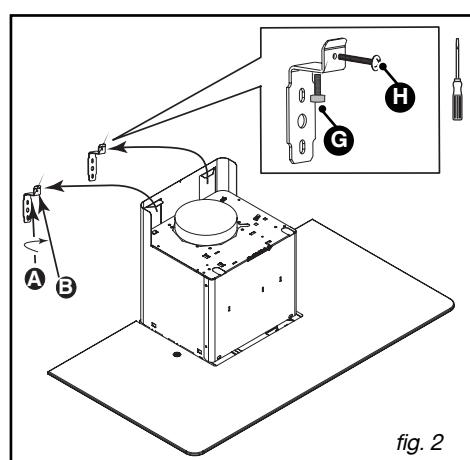

fig. 2
- Using the rectangular cut-outs, attach the suction hood to the two brackets (fig. 2). The size of these cut-outs allows you to adjust the position to the right or left.
- Mount the back-flow valve near the motor outlet (fig. 2). This back-flow valve makes it possible to block the entry of air from the outside.